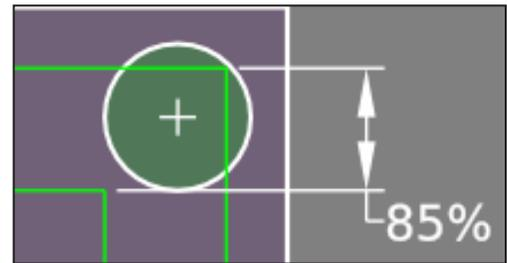

Figure 6.28
**Stepover** – This is the space between spiral tool paths. To prevent uncut areas in the spiral corners, the stepover value should be limited to 80 percent of the tool diameter (see **Figure 6.28**). A stepover of 0 may be entered which invokes a center only cut. This is more formally called by X or Y values that create a workpiece width less than 70 percent of the tool diameter.